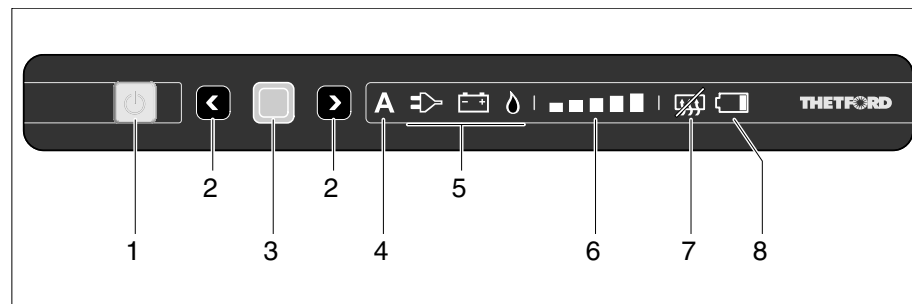

Fig. 337 Operating and display elements for the refrigerator (Thetford without SES)
- Press the button (Fig. 337,1).
- Press and hold the button (Fig. 337,1). All the lamps go out.
If automatic mode is selected, the automatic mode display (Fig. 337,4) and the best available source (Fig. 337,5) light up in the operating panel.
- Press and hold the confirmation button (Fig. 337,3).
The operating mode symbols (Fig. 337,5) begin to flash.
- Use the selection buttons (Fig. 337,2) to select gas operation and apply the selection by using the confirmation button (Fig. 337,3).
- Use the selection buttons (Fig. 337,2) to select 230 V operation and apply the selection by using the confirmation button (Fig. 337,3).
- Use the selection buttons (Fig. 337,2) to select 12 V operation and apply the selection by using the confirmation button (Fig. 337,3).
- Press the confirmation button (Fig. 337,3) again.
The cooling level display (Fig. 337,6) begins to flash.
- Use the selection buttons (Fig. 337,2) to select the desired cooling level and apply the selection by using the confirmation button (Fig. 337,3).